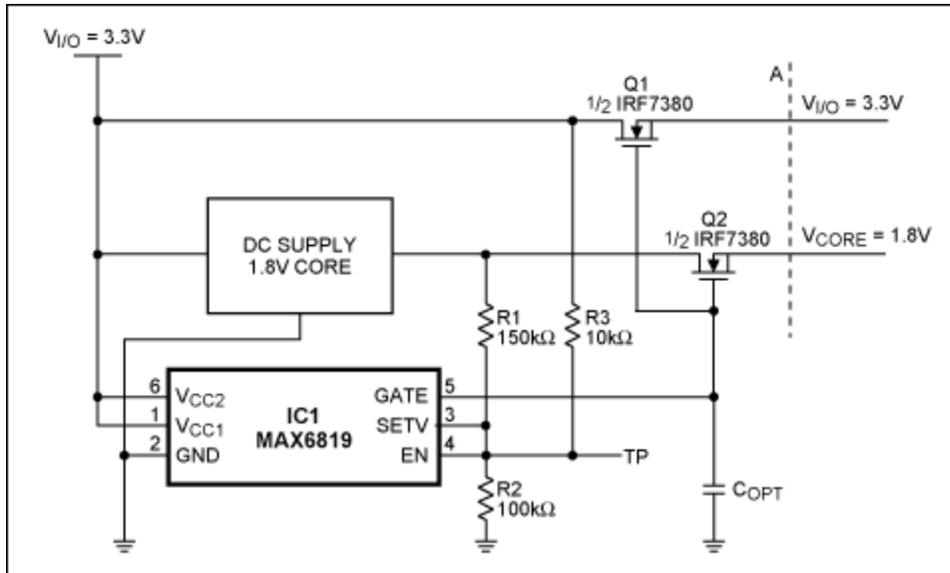

Figure 2. A voltage sequencer (the MAX6819) forces the core and I/O voltages to track by controlling the n-channel MOSFETs simultaneously.
A simpler, open-loop tracker may be adequate in some cases. A power-supply sequencer circuit (IC1, the MAX6819, in Figure 2) can be configured to perform the voltage-tracking function. Unlike the closed-loop methods, this approach does not short out the power rails or require the control of a DC-DC regulator's feedback loop.
The core and I/O supply voltages are off when the MOSFETs are off (Figure 2). Then, as the voltage monitored at SETV exceeds its threshold, an internal charge pump generates a voltage (GATE output) that enhances the gates of the n-channel MOSFETs simultaneously. If the drain voltages of these two switches are within a few volts of each other, and if the drain currents are not too dissimilar, then the $V_{I/O}$ and V_{CORE} voltages ramp up together as their common gate voltage rises (Figure 3). The differential between the rails is about 200mV, caused by a slight difference in gate turn-on voltages for the FETs used. To increase the ramp time, you can add a small capacitor at the GATE output (C_{OPT}) to decrease the slew rate.
Figure 3. This scope photo illustrates the tracking of $V_{I/O}$ (upper trace) and V_{CORE} in the circuit of Figure 2, where $V_{I/O} = 3.3V$, $V_{CORE} = 1.8V$, and both loads are adjusted to 1A.
The Figure 2 circuit can also monitor the supply voltages. If the 3.3V rail falls below about 2V, or if the 1.8V rail falls below the threshold set by the R1/R2 voltage-divider, the GATE output goes low and turns off both MOSFETs. Resistors R1 and R2 determine the actual shutoff level. (The values shown monitor the 1.8V rail.) You can turn off the circuit by pulling the enable input (EN) low.
As a bonus, the circuit automatically "retries" after responding to a shorted load. If the short appears to the right of the dotted line ("A" in Figure 2), the collapse of either or both supplies opens the switches and disconnects both loads from the supply voltages. The formerly shorted power rail returns, and a 200ms delay built into the MAX6819 again closes the switches to test the load after the delay. This load testing continues at 200ms intervals until the short disappears or until the supplies are turned off.